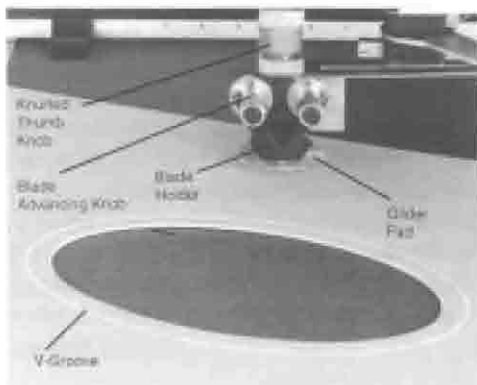

Figure 12
4. Raise the **Blade Holder**, unclamp the mat, and remove the cut-out material. See Figure 12.